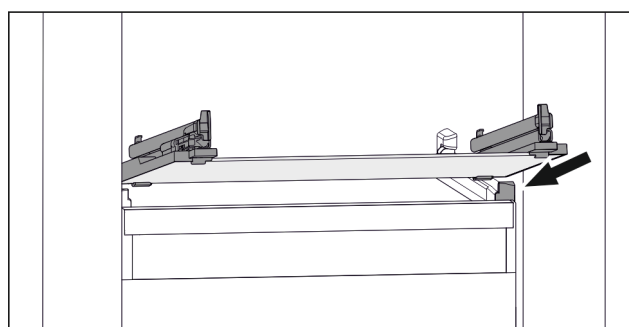

Fig. 102 Example illustration of glass shelf
- Position glass shelf at an angle behind the stoppers. (see Fig. 102)